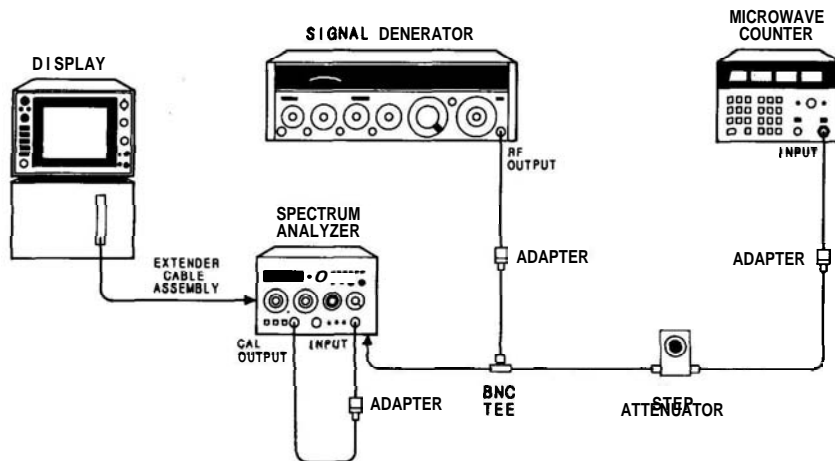

FIGURE 5-8. 3-dB BANDWIDTH ADJUSTMENT TEST SETUP
9. Connect signal generator as shown in Figure 5-8. Tune signal generator to approximately 21.4 MHz. Set the signal generator to approximately 0 dBm and the step attenuator to 10 dB. Set COUNTER MODE to EXPAND X 100.